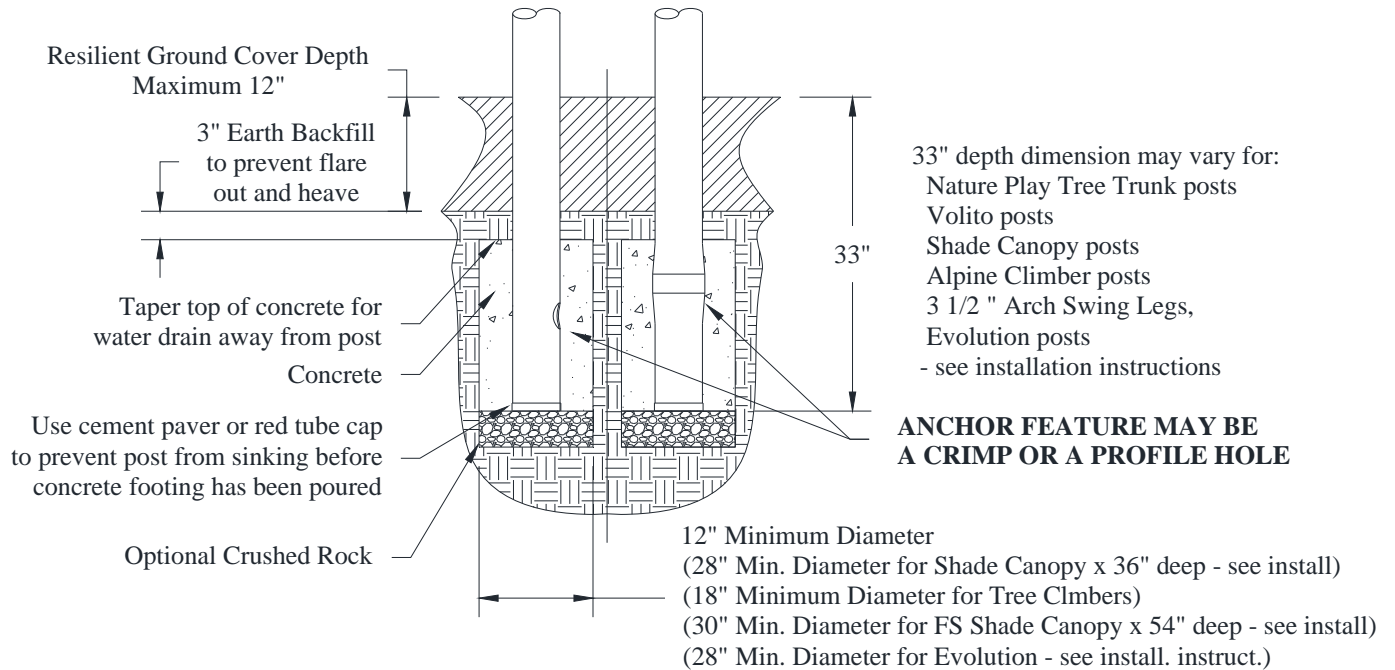
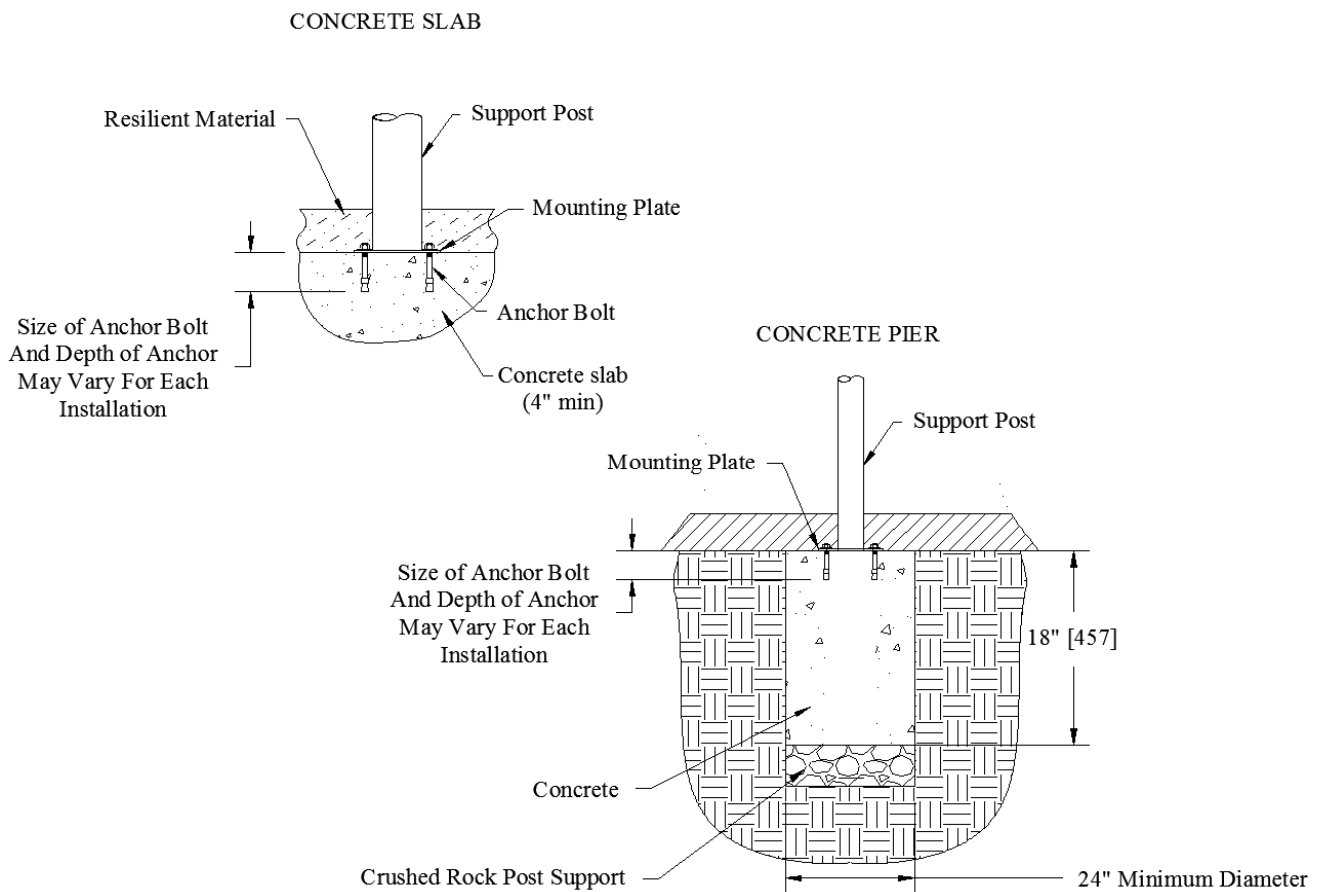

Figure 2: Support Post Footing Detail
Figure 5: Surface Mount Detail
5. Footing hole depths may vary depending on the depth of the resilient material to be installed along with local soil and weather conditions. See Typical Concrete Footings in Figures 2 - 7 (located on pages 11 - 13). Use masonry bricks, gravel, or shims at the bottom of the footing holes in order to block up and plumb the posts and the platforms to the correct level. Be sure to use red plastic caps provided on ends of posts to keep posts from sinking in support material.
11. Pour concrete footings. **MAKE SURE UNIT IS PLUMB AND LEVEL BEFORE POURING CONCRETE FOOTINGS.** See Typical Concrete Footings in Figure 2 through Figure 5 (Located on Page 7 through Page 9). After concrete footings have been poured and the concrete has set, backfill holes with dirt to reduce the potential of any concrete footing ever protruding above the resilient surfacing material
When installing a surface mounted structure or event as seen in Figure 5, there may be multiple mounting plate styles depending on the type of supports involved. A hole is to be drilled and an anchor installed for each hole or slot in all mounting plates. Surface mounted events and structures are to be installed to concrete surfaces only. Concrete is to be a minimum of 4 inches in thickness and have a minimum strength rating of 3000psi for structures without shade canopies; 4000psi with shade canopies.